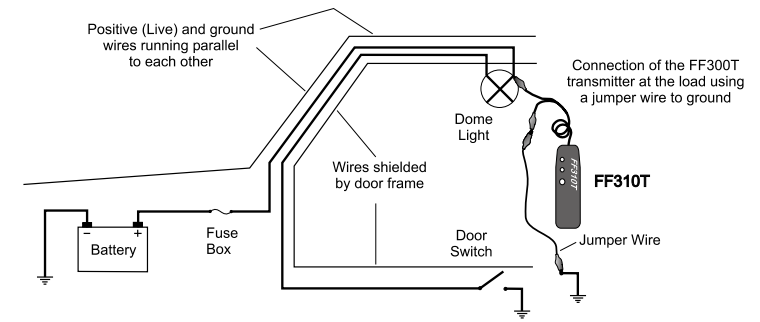

Fig. 9 - Simplified dome light circuit hook up for wire tracing
- This is achieved by means of connecting a jumper wire between the live wire (preferably at a termination point in the circuit such as a light bulb socket or a switch, etc.), and a ground point somewhere else in the vehicle (see Fig. 9). This last method should be used only as "last resource" and with the FF310R set to low sensitivity, as it may make the pinpoint of the precise location more difficult due to the much increased range.